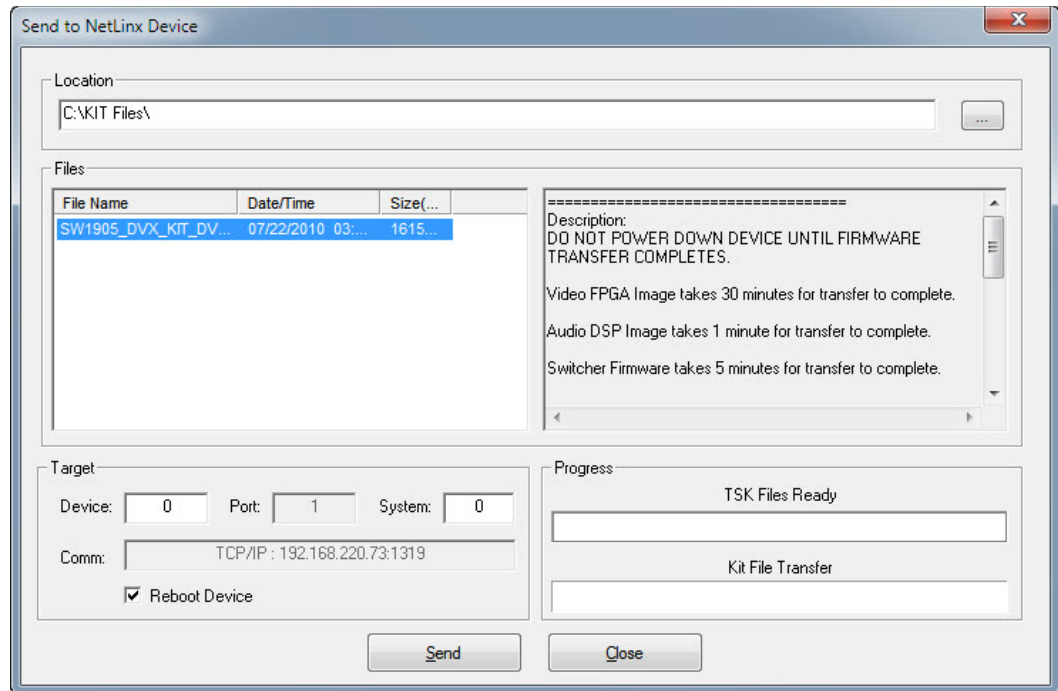

FIG. 64 Send To NetLinx Device dialog box (NetLinx Studio)
- Assuming that the specified target directory contains one or more KIT files, the KIT files in the selected directory are displayed in the *Files* list box, with the file's last modified date and time (FIG. 64).